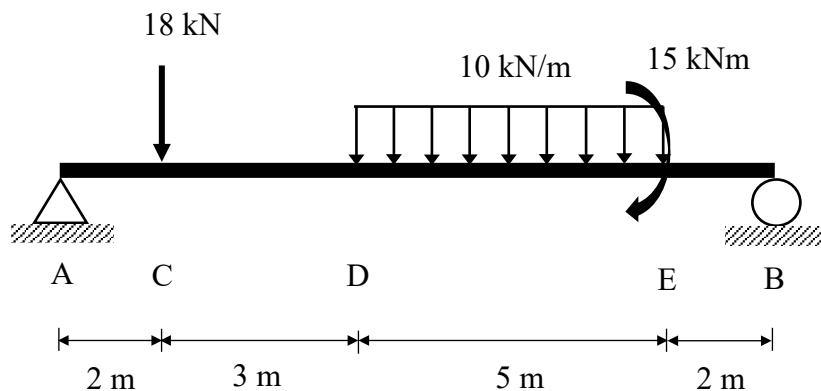

Figure A2(c) / Rajah A2(c)
- CLO1 (c) Figure A2(c) shows a simply supported beam is subjected to point load, uniformly distributed load and moment. Given  $R_{Ay} = 32.5 \text{ kN}$  and  $R_{By} = 35.5 \text{ kN}$ . By using a Macaulay Method, construct the equations for bending moment, slope and deflection.